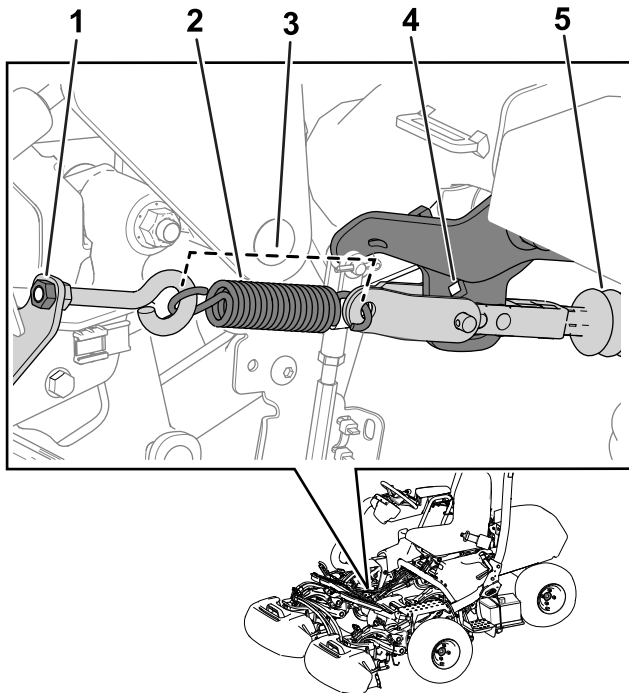

Figure 32
Note: Refer to Figure 32 for this procedure.
5. Release tension on the spring by loosening the nut that secures the eyebolt to the spring bracket (Figure 32).
3. Install the spring as shown in Figure 32.
4. Tighten the eyebolt nut so that the spring length is 11.4 cm (4.5 inches) when installed (Figure 32).